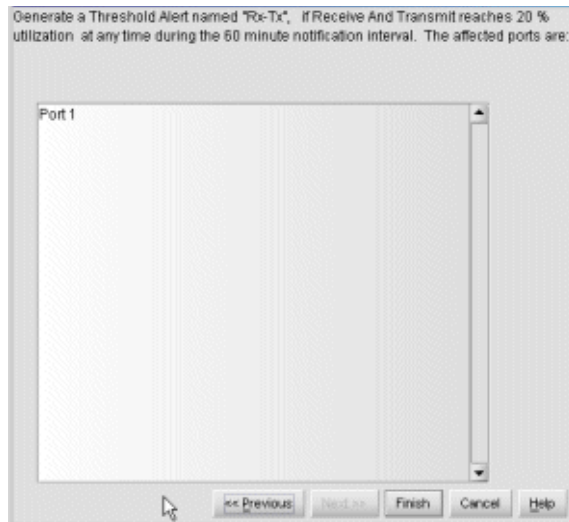

Figure 57: New Threshold Alerts dialog box—summary screen
11. Click **Next**. A final screen displays to provide a summary of your alert configuration, as shown in Figure 57.